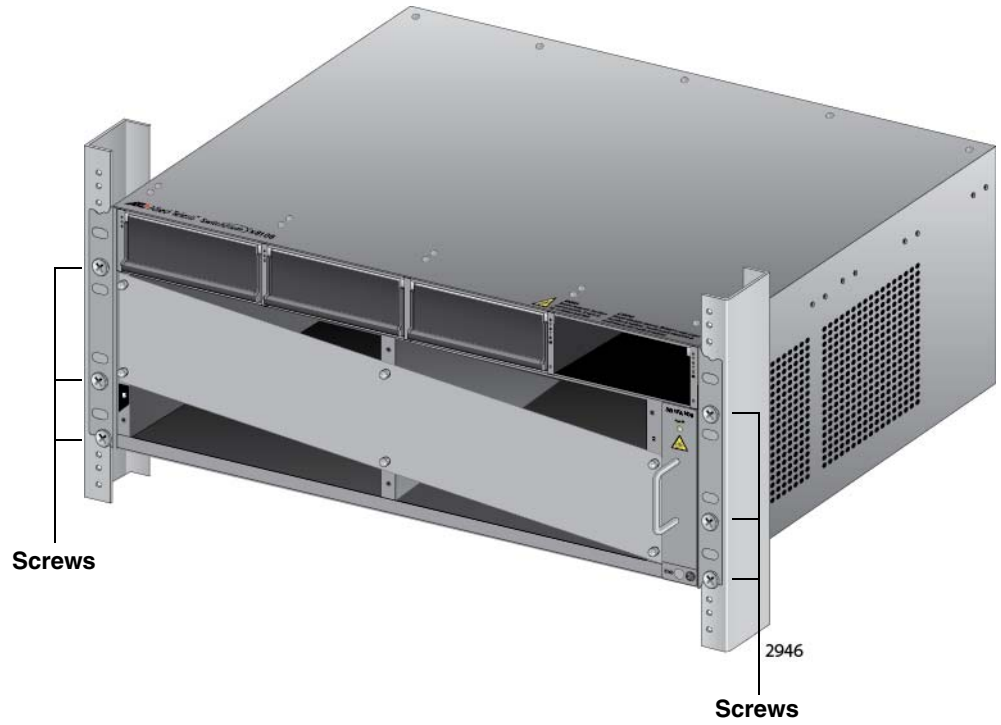

Figure 53. Tightening the Rack Mount Screws
5. Tighten all six screws shown in Figure 53 on page 127 to secure the chassis to the equipment rack, Allied Telesis recommends tightening the screws to 10 inch-lbs.